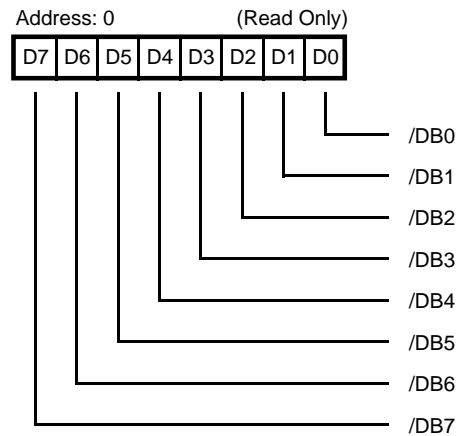

Figure 4. Current SCSI Data Register
**Current SCSI Data Register.** *Address 0 (Read Only).* The Current SCSI Data Register (Figure 4) is a read-only register which allows the microprocessor to read the active SCSI Data Bus. This is accomplished by activating /CS with an address on A2-A0 of 000 and issuing an /IOR pulse. If parity checking is enabled, the SCSI Bus parity is checked at the beginning of the read cycle. This register is used during a programmed I/O data read or during Arbitration to check for higher priority arbitrating devices. Parity is not guaranteed valid during Arbitration.